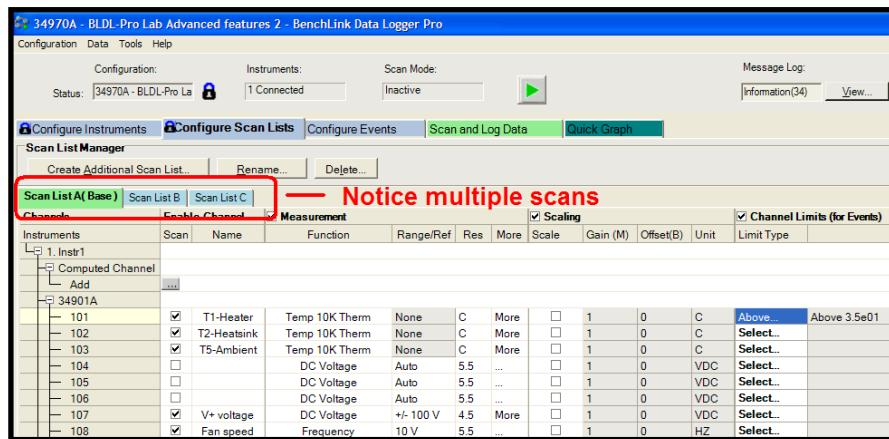

Figure 19 – BLDL-Pro supports multiple Scan Lists and conditional branching
- c) Inspect the **Configure Scan Lists** tab. Notice there are multiple scans shown (figure 19). BLDL-Pro supports multiple scans and conditional branching from scan to scan.
NOTE: your temperatures measured and set-points may vary slightly from that shown in figure 19 (due to various hardware versions of the demo cube).